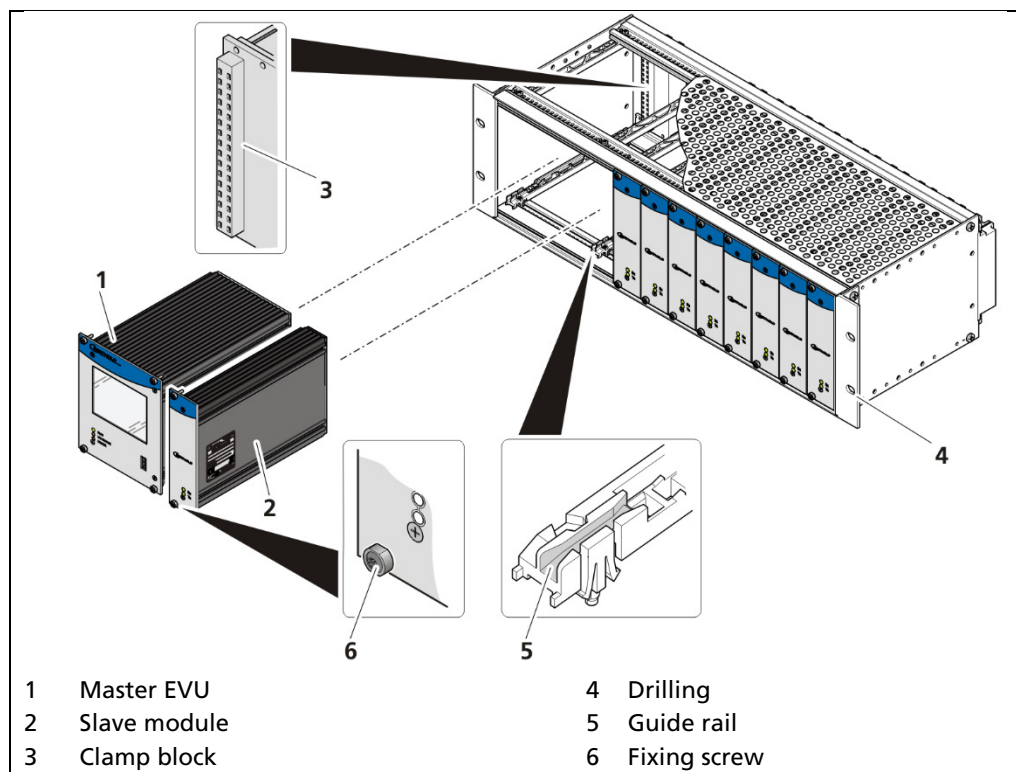
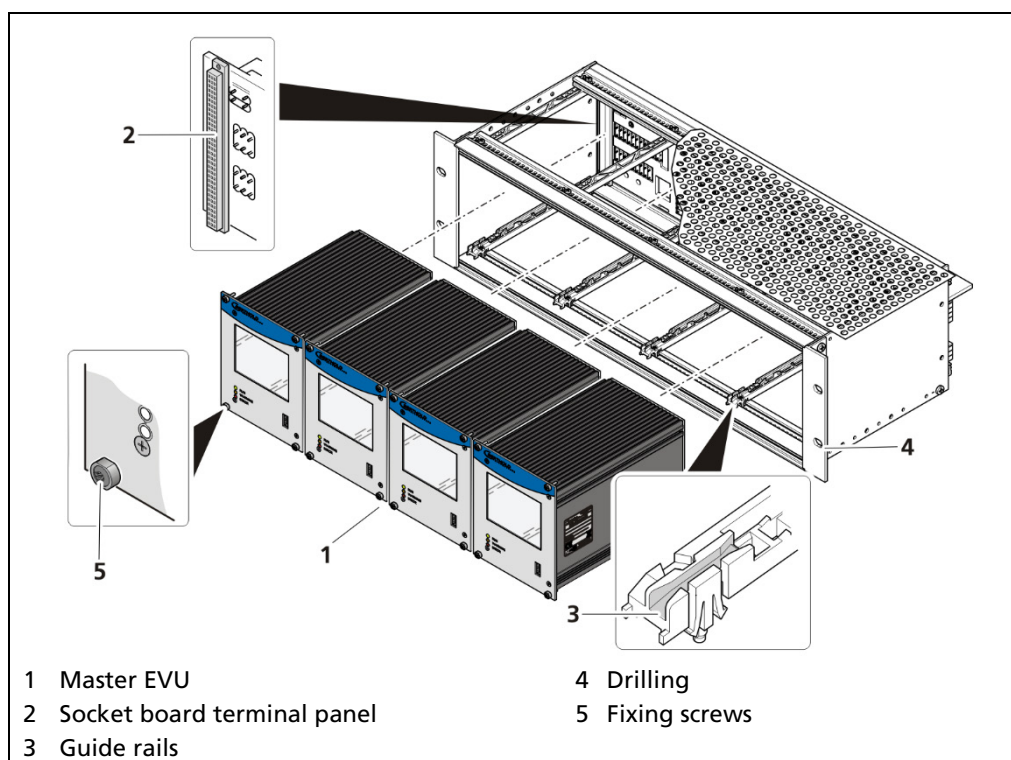

Fig. 16 19" subrack with clamp block (Ex: 1x Master, 9x Slave)
Fig. 17 19" subrack with terminal panel (Ex.: 4x master)
The 19" subrack can be equipped differently, depending on requirements (see document "Technical Information"). The rear clamp blocks (Fig. 16, item 3) or terminal panels (Fig. 17, item 4) are used for the electrical connection.
The subrack is installed in a 19" control cabinet or a control panel (switchboard). The 4 side holes (Fig. 17, item 4) that should be provided with fitting screws are used to fasten the subrack.
- ▶ The master's EVUs / slave modules must be secured against pulling out by fixing screws (Fig. 16, item 6).
1. Set master EVU / slave module (Fig. 16, item 1, item 2) in the guide rails (Fig. 16, item 5).
3. Tighten fixing screws (Fig. 16, item 6).
- ▶ The master's EVUs / slave modules must be secured against pulling out by fixing screws (Fig. 17, item 5).
1. Set master EVU / slave module (Fig. 17, item 1) into the guide rails (Fig. 17, item 3).
2. Carefully slide module into the subrack until the plug connector is inserted into the socket board (Fig. 17, item 2).
3. Tighten fixing screws (Fig. 17, item 5).